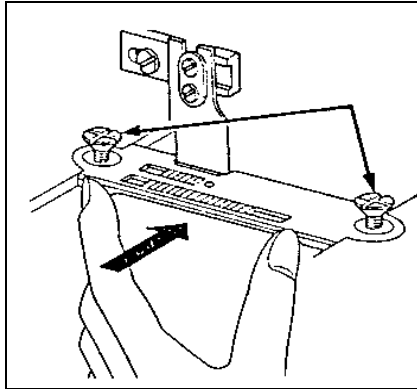

Fig. 31
22. INSTALLING OF THE NEEDLE PLATE (Fig.31)